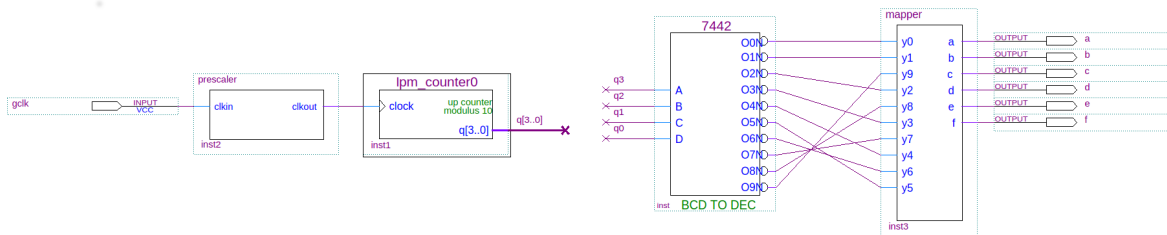

Figure 2.11: Adding the prescaler.
1. In the top-level schematic diagram, add the prescaler module. The circuit now look like Figure 2.11. After adding the prescaler, the circuit is not practical to be simulated.